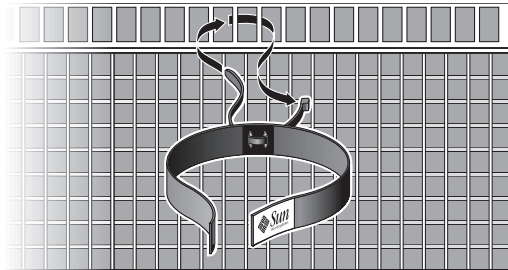

FIGURE 2-6 Black Cable Hanger Strap With Tie Wrap at Air Plenum
3. Secure the black cable hanger strap with tie wrap (No. 3) to the cutouts of the air plenum using the tie wrap (FIGURE 2-6)